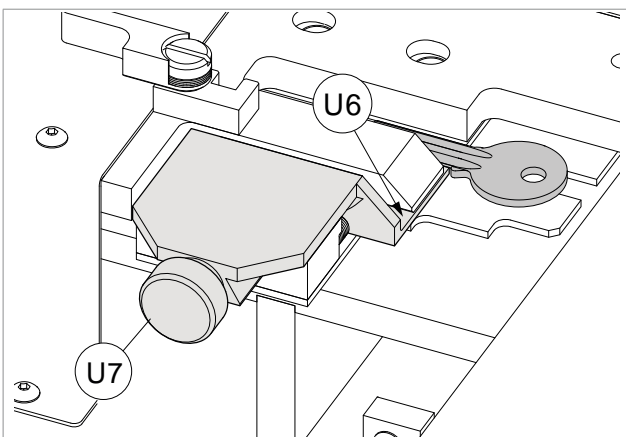

Fig. 110
- 1) Place one of the keys to be inserted into the loader on the slide (Fig. 110).